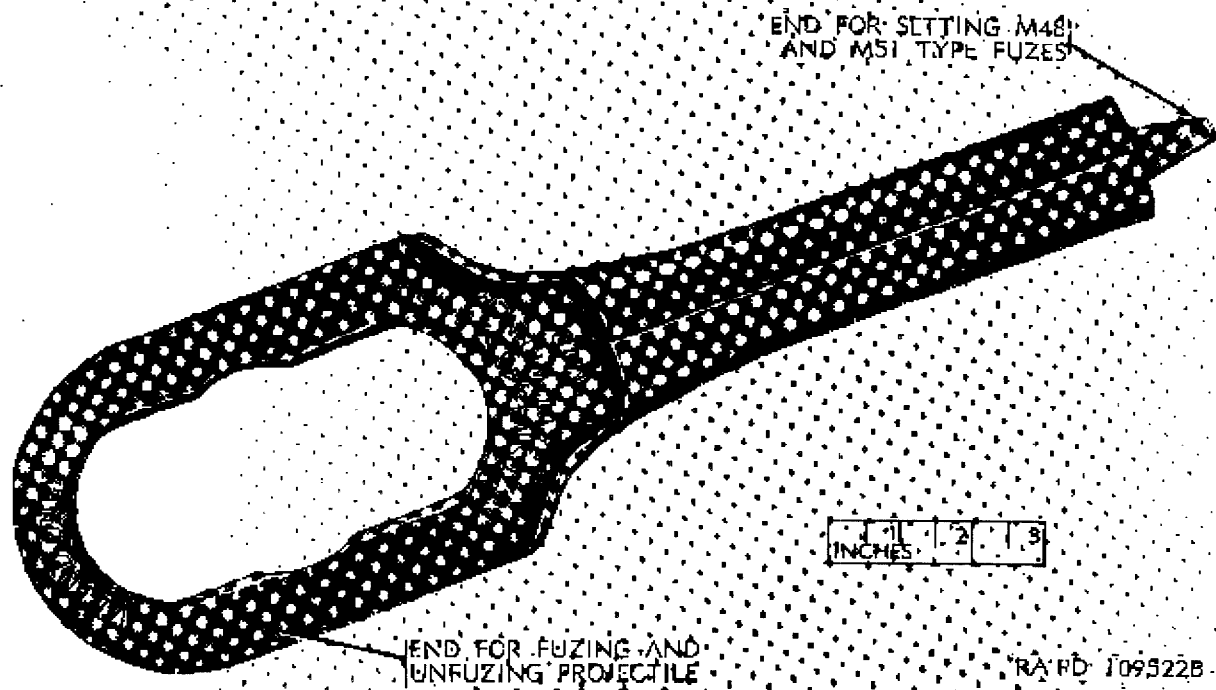

Figure 20. Wrench, fuze, M18.
(1) *Fuze wrenches.* Fuze wrench M18 (fig. 20) is provided for screwing and unscrewing fuzes from the projectile for the purposes described in f(1) above. The wrench is a box-type having two throat openings, the opening nearer the end being 2.16 inches and the other opening being 2.04 inches. The screwdriver end of this wrench is used for setting the selective setting sleeve of the fuzes M48 and M51 series from SQ to DELAY or vice versa. The wrench (2.04-inch opening) is used for PD fuzes M48 and M51 series and the MTSQ fuze M500 series.